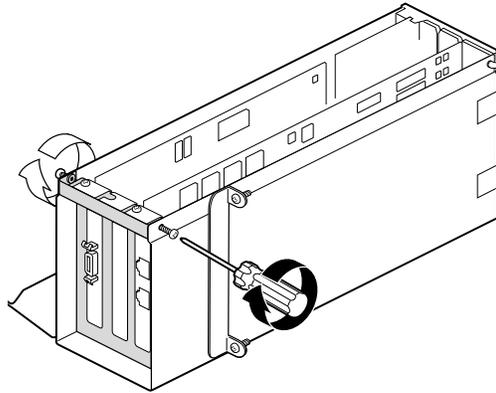

Figure 4-31 Inserting the I/O Door Screws
4. Insert, but do not tighten, the screws securing the I/O door to the PCI module, as shown in Figure 4-31.